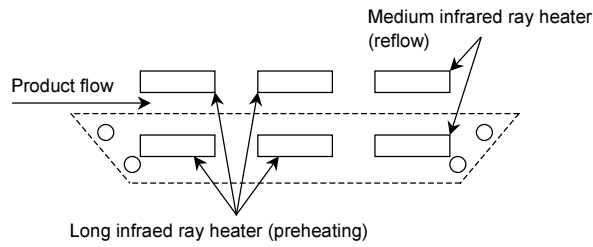

Figure 3.7 Heating Top and Bottom with Long or Medium Infrared Rays
(2) Using medium infrared ray reflow
- Heating top and bottom with long or medium infrared rays is recommended (see Figure 3.7).